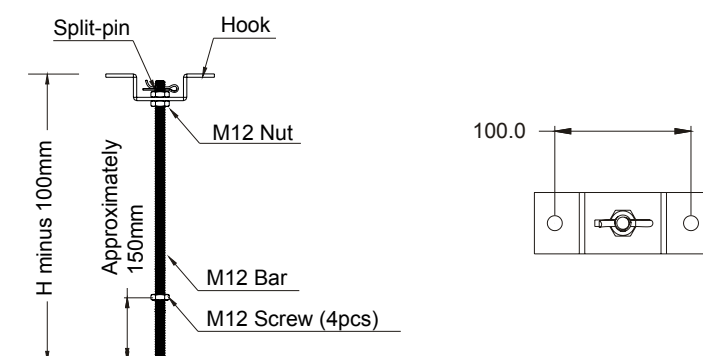

Figure 3
- 2 Trim the M12 Bars to the required length, (example: H is 500mm, the length of hanging bracket 400mm which is 500mm minus 100mm) and then assemble the M12 bar as shown below, (figure 3) using the provided Hooks and M12 nuts.